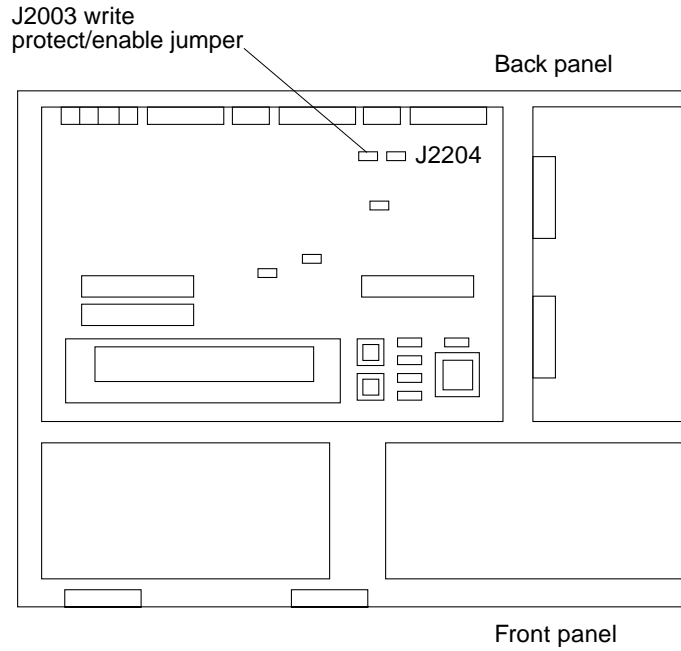

FIGURE 4-1 Sun Ultra 1 Series Write-Protect/Enable Jumper Location on Motherboard
- See FIGURE 4-1 if you have a Sun Ultra 1 Series system.